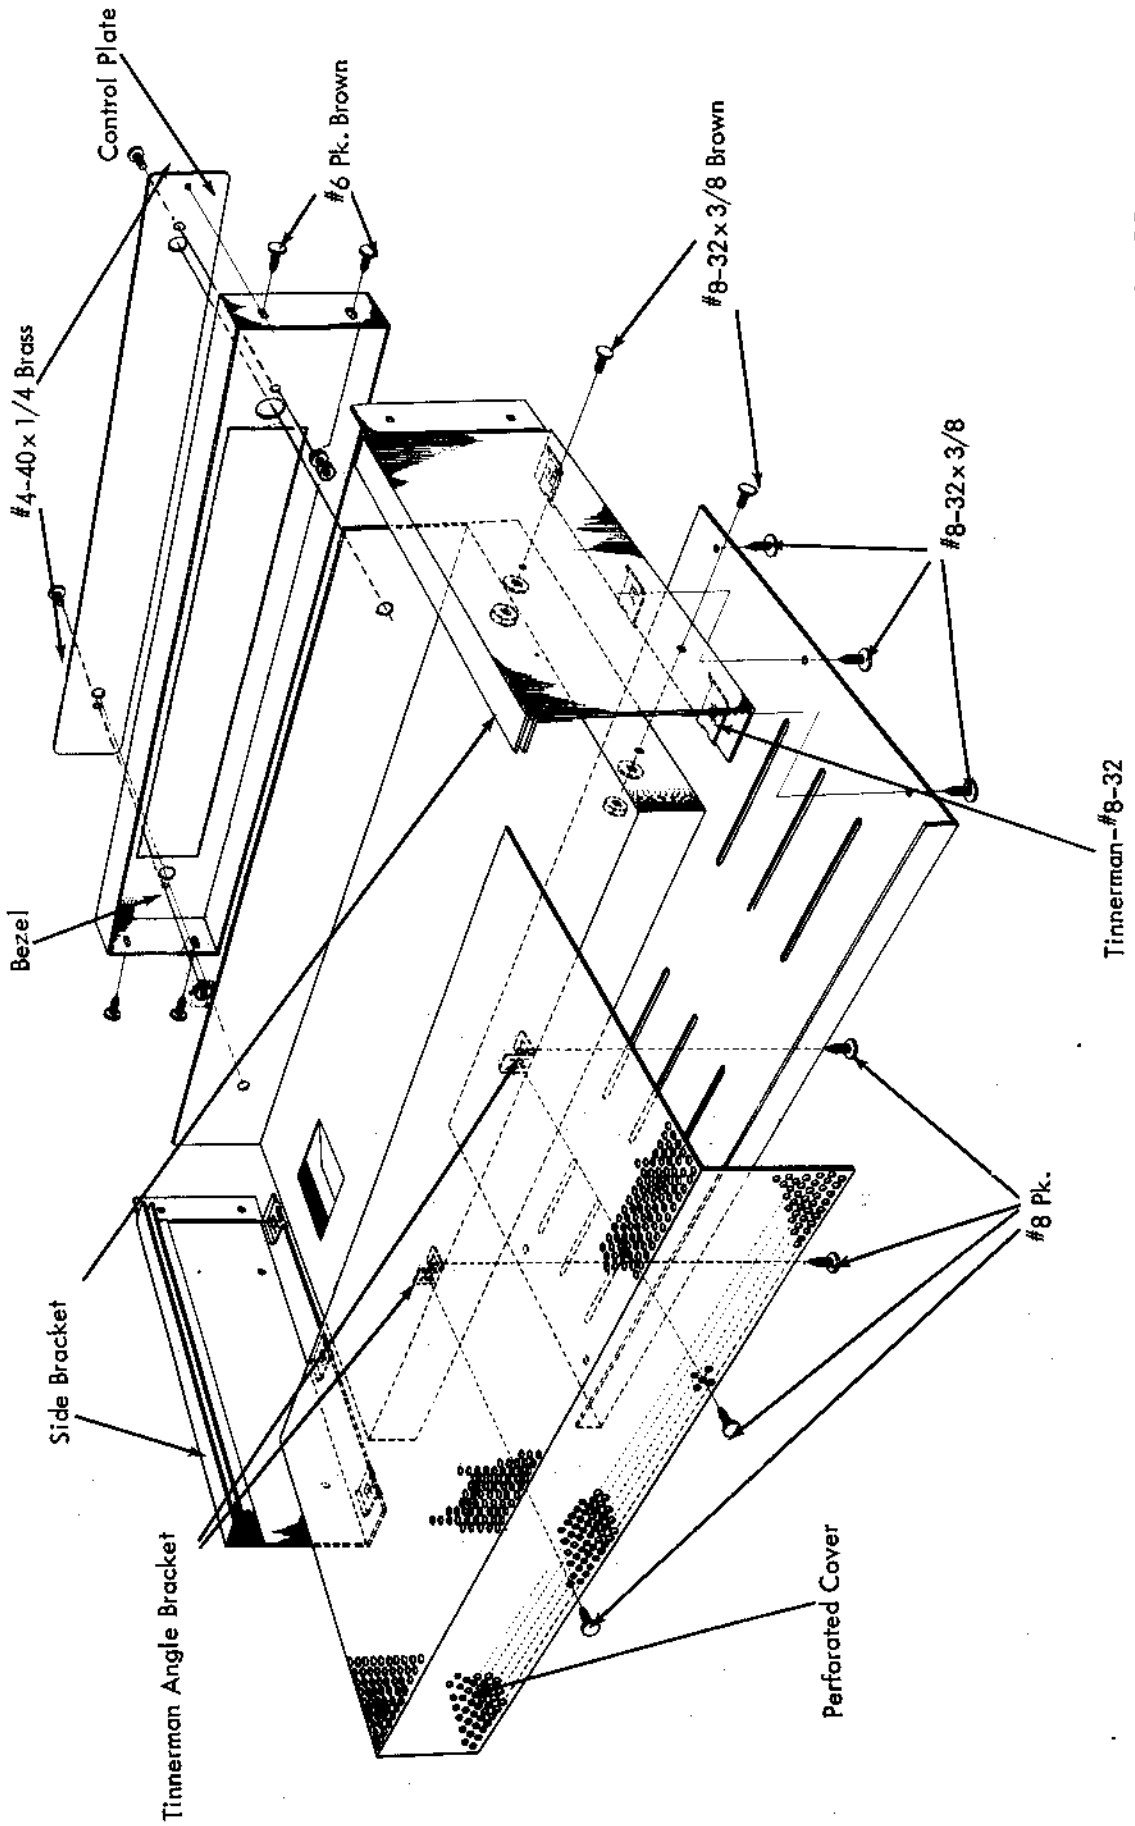

Fig. 10
4. (✓) Fig. 10. Assemble the left and right side pieces to the chassis. Each side piece is mounted with two #8-32 x 3/8 brown colored screws, two #8-32 hex nuts, and two #8 lockwashers.
5. (✓) Fig. 10. On the bottom flange of each side piece, press a tinnerman #8-32 - Type J speed nut in place over each of the three holes.
6. (✓) Fig. 10. Mount the bottom plate on the bottom flanges of the side pieces, using six #8-32 x 3/8 uncolored screws. Note that the rear flange on the bottom plate fits over the outside of the rear chassis apron.
7. () Fig. 10. Install the rubber feet in the openings provided in the bottom plate. The method is to work the rounded portion of each foot into the interior of the cabinet from the outside, using a small screwdriver. The flat surface of the bottom plate is the outside and the surface with the two flanges is the inside. When finally mounted, the flat surface will be seen while the sur-
8. (✓) Fig. 10. Insert the perforated cover into the "rails" on the side pieces and slide it forward fully.
9. () Fig. 10. Mount the control plate on the bezel using two each #4-40 x 1/4 screws, #4 lockwashers and #4 hex nuts to fasten it to the bezel. Note that the narrower portion of the cutout in the bezel is at the top. Press the plastic pilot jewel into place on the control plate.
10. () Fig. 10. Fit the bezel and control plate over the projecting control and slide switch shafts, onto the ends of the side pieces and the perforated cover. Assemble the bezel to the side pieces with four #6 x 1/4 brown colored P. K. screws. Before tightening the screws finally, be sure there is adequate play to slide the perforated cover out.
11. () Fig. 10. Fasten the perforated cover to the two tinnerman angle brackets (previously mounted on the rear edge of the chassis surface) using two #8 P. K. Type Z screws.
12. () Fig. 10. Set all controls to the furthest counter-clockwise position. Mount the knobs on the shafts with the indicating dots pointing as follows: SELECTOR knob at AUX A; MODE knob to AMPL. 1; LEVEL knob at 0; BASS and TREBLE knobs to -5. Note that all clutch controls are at their maximum counter-clockwise position.